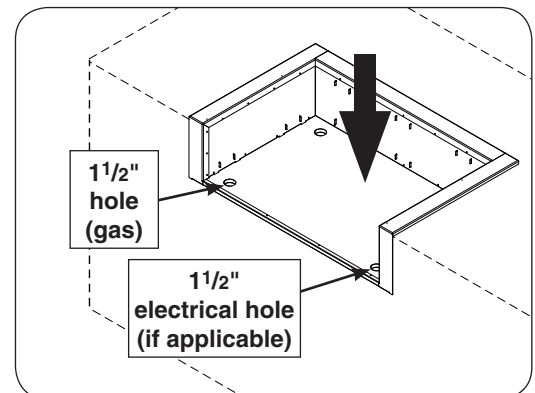

Fig. 3-3 Install insulating liner
1. Install the insulating liner as shown in Fig. 3-3.
Note: If possible, use the front hole for electrical feeds. See Fig. 3-3.